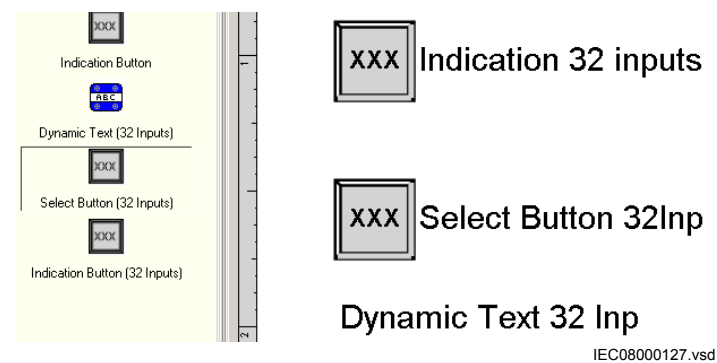

Figure 66: GDE: Dynamic Text symbols
- Select *Dynamic Text* and *Indication* to present the text for the actual value of the function block, see Figure 66.